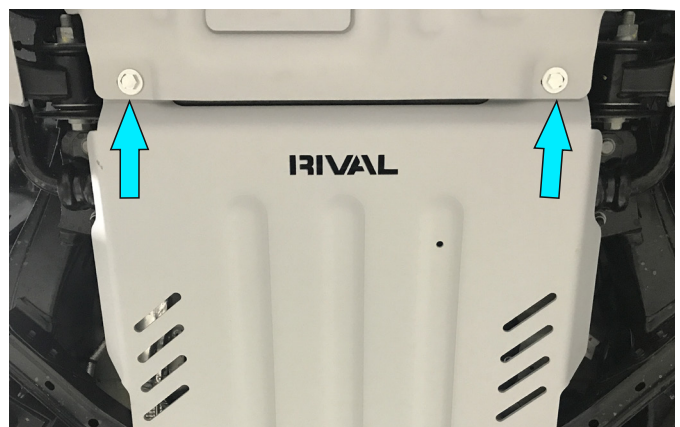

Fig. 4
4. Put the front part of gearbox skid plate (item 1) above engine skid plate or RIVAL engine skid plate on installed bolts (fig.4).